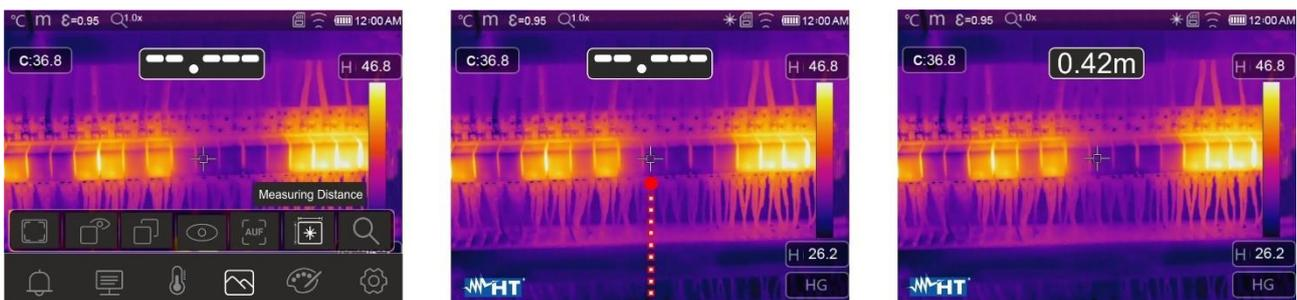

Fig. 38: Function for measuring distance with laser pointer
4. Touch the icon “” to activate the measurement of the distance between the instrument and the framed target. The sequence of screens appears on the display are shown in Fig. 38
5. The laser pointer (see Fig. 2 - part 3) turns on and blinks intermittently. The distance measurement is always active on the instrument and the result is shown in the upper central part of the display (see Fig. 38 - right part). Move the instrument to the positions where you want to take the measurement
6. Press key Trigger (T) to freeze the image and save it in the instrument's memory (see § 4.2.5)